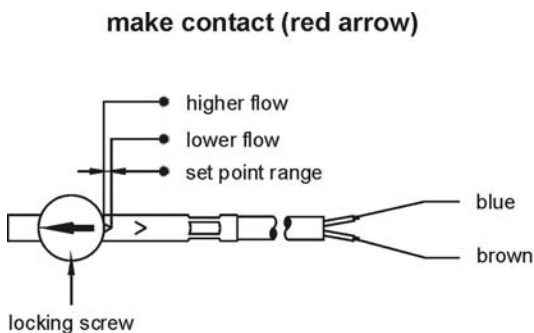
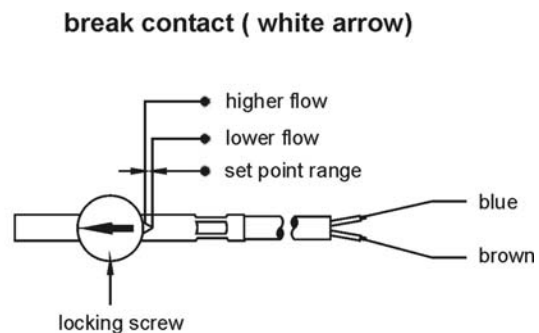

Fig. 18
Fig. 19
- ⇒ Subsequently position the switching unit until the red (Fig. 18) or the blue arrow (Fig. 19) are visible at the entry of the switching unit guide for a desired make or break contact respectively (not required for change-over contact).